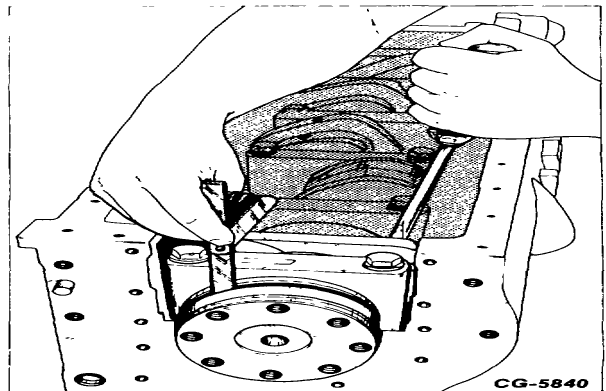

Figure 30. - Checking Crankshaft End
- c. Check the clearance across the bearing split as shown in Fig. 30.